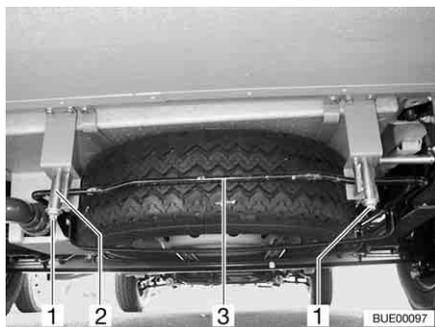

Fig. 211 Spare wheel support (basket)
- Loosen the nuts (Fig. 211,1) on the right and left rear hooks (Fig. 211,2) of the spare wheel support.
- Pull the bar (Fig. 211,3) slightly upwards. At the same time, pull down the hooks and unhook the bar.